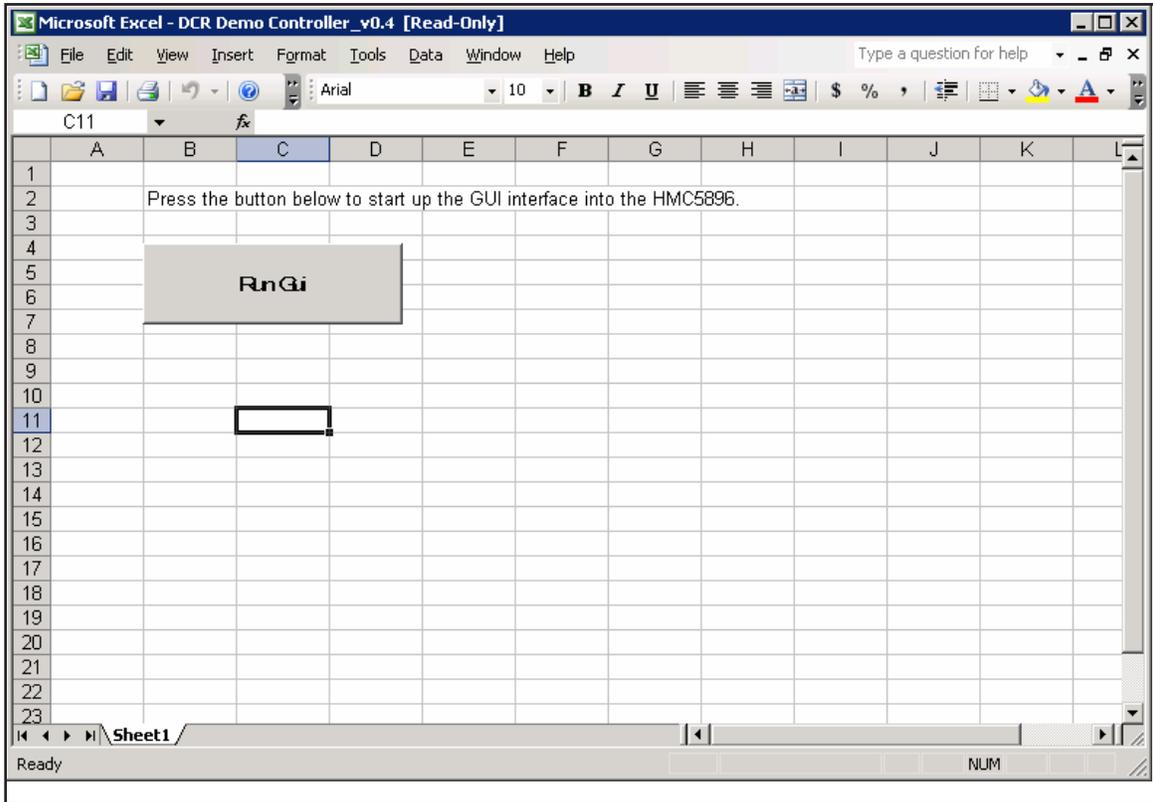
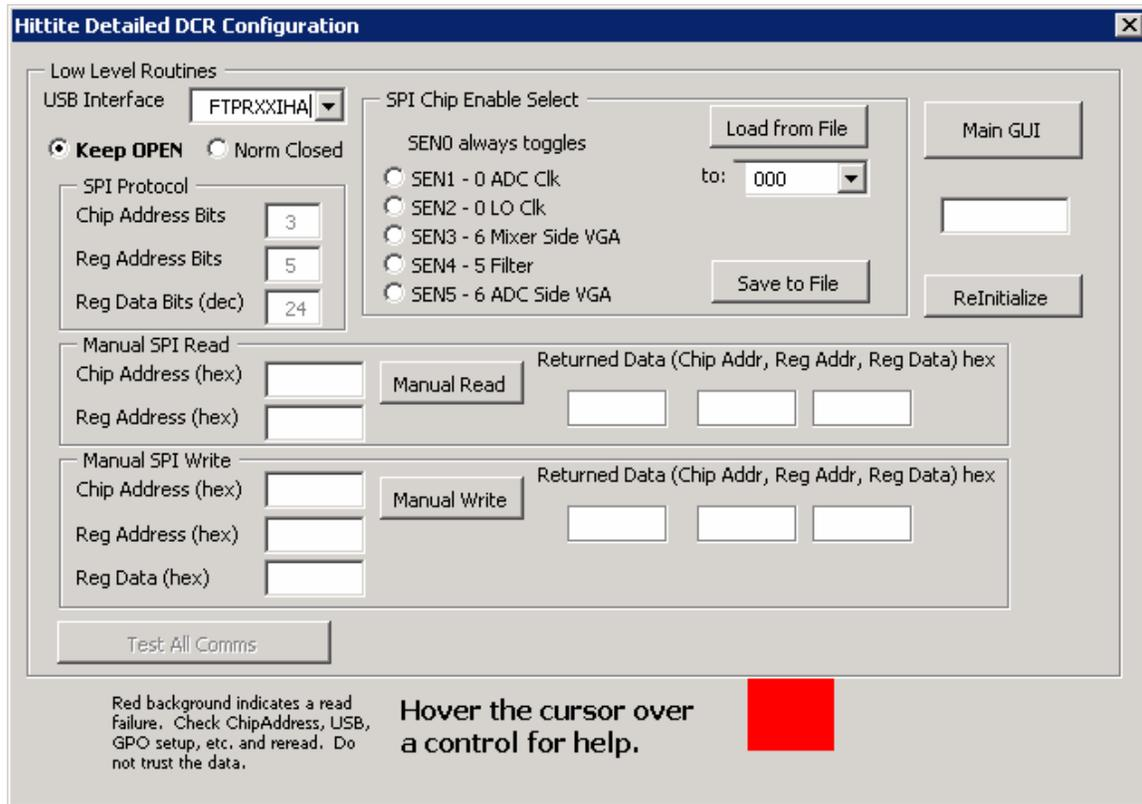

Figure 4. Hittite DCR Demo Start Dialog
Figure 8. Hittite Detailed DCR Configuration Dialog
To configure analog portion of the DCR evaluation board click on ‘Receiver Configuration’ button. Microsoft Excel window ‘DCR Demo Controller_v0.4.xls’ will appear as shown in the Figure 4 below.
Click on 'Enable Macros.' 'DCR Demo Controller_v04.xls' (Figure 4) will open. Click the 'Run GUI' button. The 'Hittite Detailed DCR Configuration' dialog shown in Figure 8 will appear.
3. Click on the 'Receiver Configuration' button and wait for the 'Hittite Detailed DCR Configuration' dialog shown in Figure 8 to appear.
4. Click on 'Load from File' button in 'Hittite Detailed DCR Configuration' dialog shown in Figure 8, and navigate to a default 'Config.txt' configuration file found on 'C:\Program Files